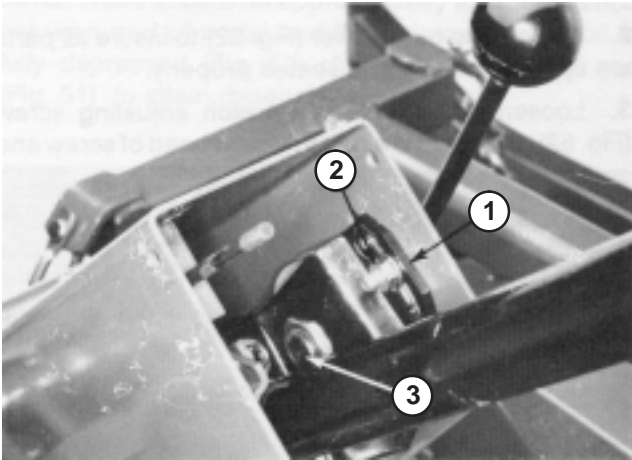

Figure 43
1. Remove knob from parking brake and self tapping screws from steering column cover. Slide cover up steering shaft to expose pivot bracket (Fig. 43).
2. Loosen small nut, rotate pivot bracket until it tightens large nut below (Fig. 43). Retighten small nut.